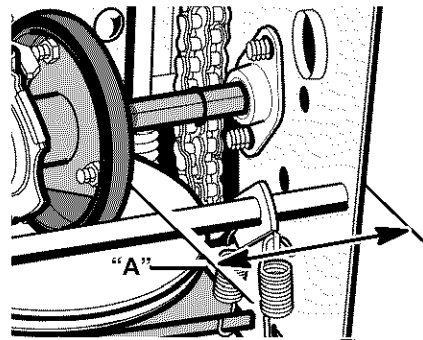

Figure 31
6. Note the position of the **friction wheel** (see Figure 31). The correct distance "A" from the right side of the **friction wheel** to the outside of the motorbox is as follows:
3. Move the **friction wheel** to the correct position (see Figure 31).